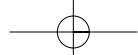

**Fig. 10**
(6) Place the plastic cover over the end of the pipe (for indoor side only) and insert the pipe in the wall. (Fig. 10)